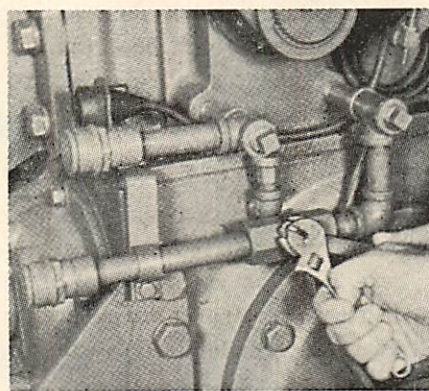

Fig. O148 — Adjusting the auxiliary Hydra-Lectric restrictor valve on models so equipped. Refer to text for procedure.
**239. AUXILIARY RESTRICTOR VALVE.** An externally mounted valve is available for installation when it is desirable to restrict return flow of oil from the rod end of a remote cylinder. See Fig. O148. When installing an auxiliary restrictor valve, be sure that the arrow embossed on valve body points toward the valve port in hydraulic housing and that the valve is installed in the line connected to the free-flow port; see Fig. O149.
To adjust the auxiliary restrictor valve, remove load from remote cylinder, refer to Fig. O148 and proceed as follows: Loosen the lock nut and turn the adjusting screw in to increase restriction or out to reduce restriction, then tighten the lock nut. When properly adjusted, the remote cylinder should extend or retract smoothly at engine high idle speed. If relief valve blows, back adjusting screw out to reduce restriction. Refer also to paragraph 238.